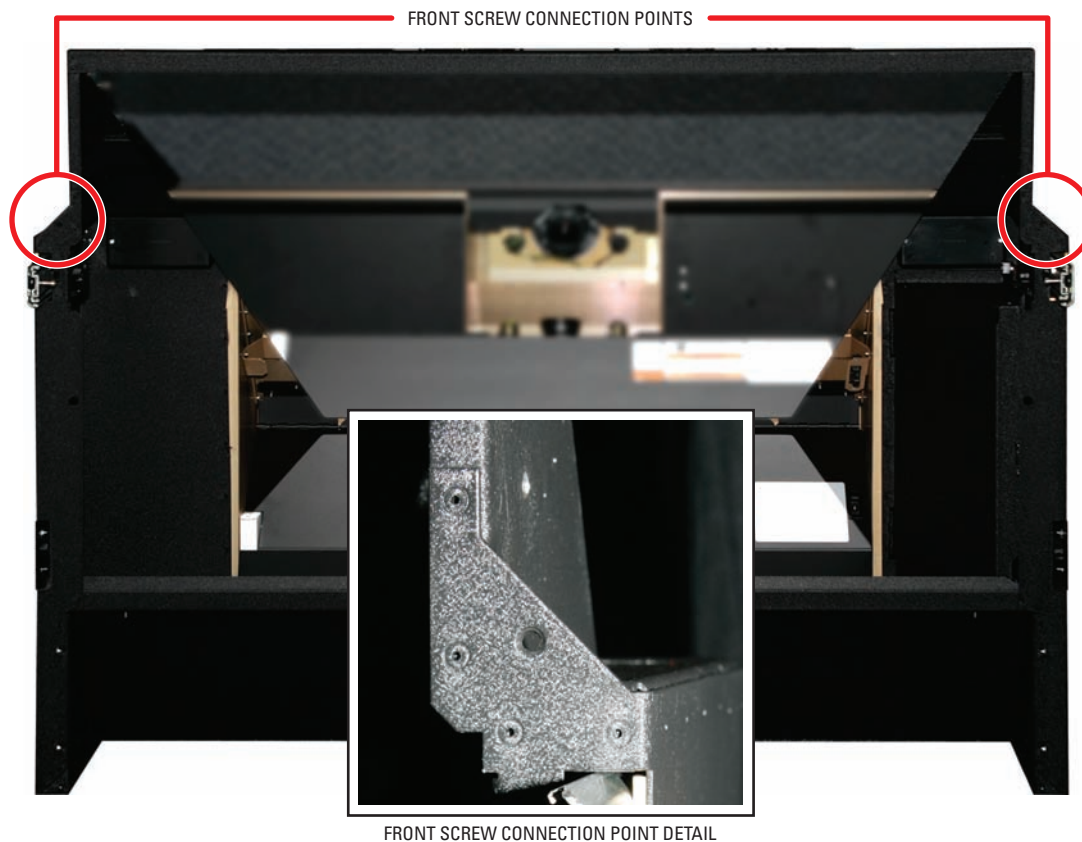

Figure 4. Front Screw Securing Locations
2. As each unit is placed in the second row, secure it to the front of the lower unit with two 6-32 x 3/8-inch screws. Refer to Figure 4.